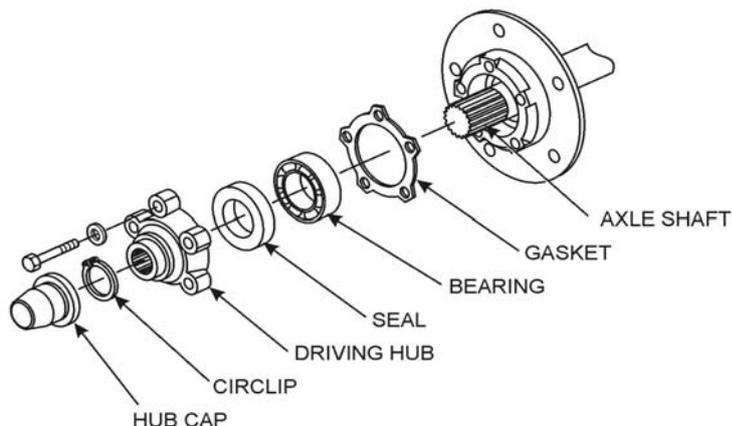

Figure 100 Axle Shaft and Flange Exploded View
- e. Remove the five bolts and spring washers securing the driving hub to the hub. Discard the spring washers (Figure 100).